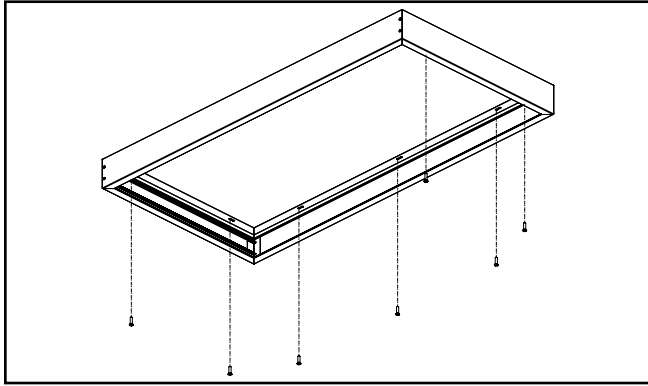

Figure 6.
- A6. Attach box to ceiling using appropriate hardware (not included) to secure both short rails and the long rail with the tether anchors installed to the surface. Ensure the box remains square when mounting. The spacing of the mounting slots is 16 inches center-to-center. (Figure 6.)